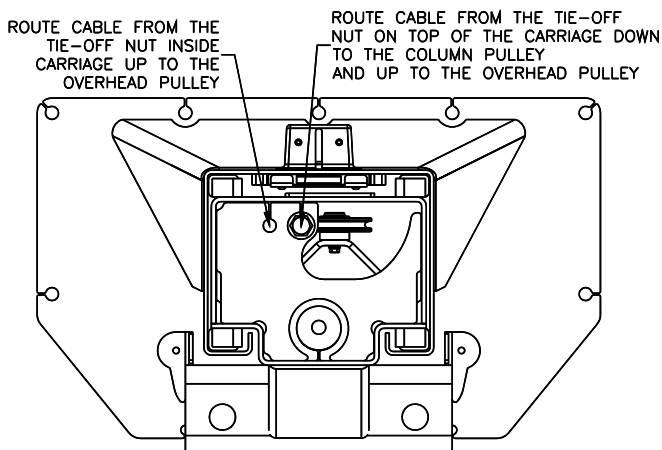

Fig. 9 – Cable Assembly/Cable Extensions
- 18) Route the synchronizer cables as shown in **Fig. 9**. Routing the cable from the inner hole location on the top of the carriage down to the column pulley and up to the overhead pulley. From the other hole location route the cable up to the overhead pulley.